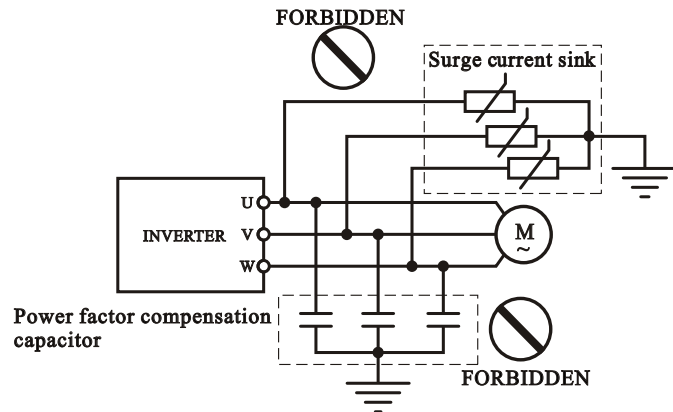

Fig. 1-3
- The output voltage of inverter is PWM impulse wave. DO NOT install a capacitor or surge current sink (i.e., a varistor) in the inverter output port. Otherwise, there is the danger of fault tripping of the inverter or damage to its power elements. DO remove such kind of things if already installed. See Figure 1-3 below.